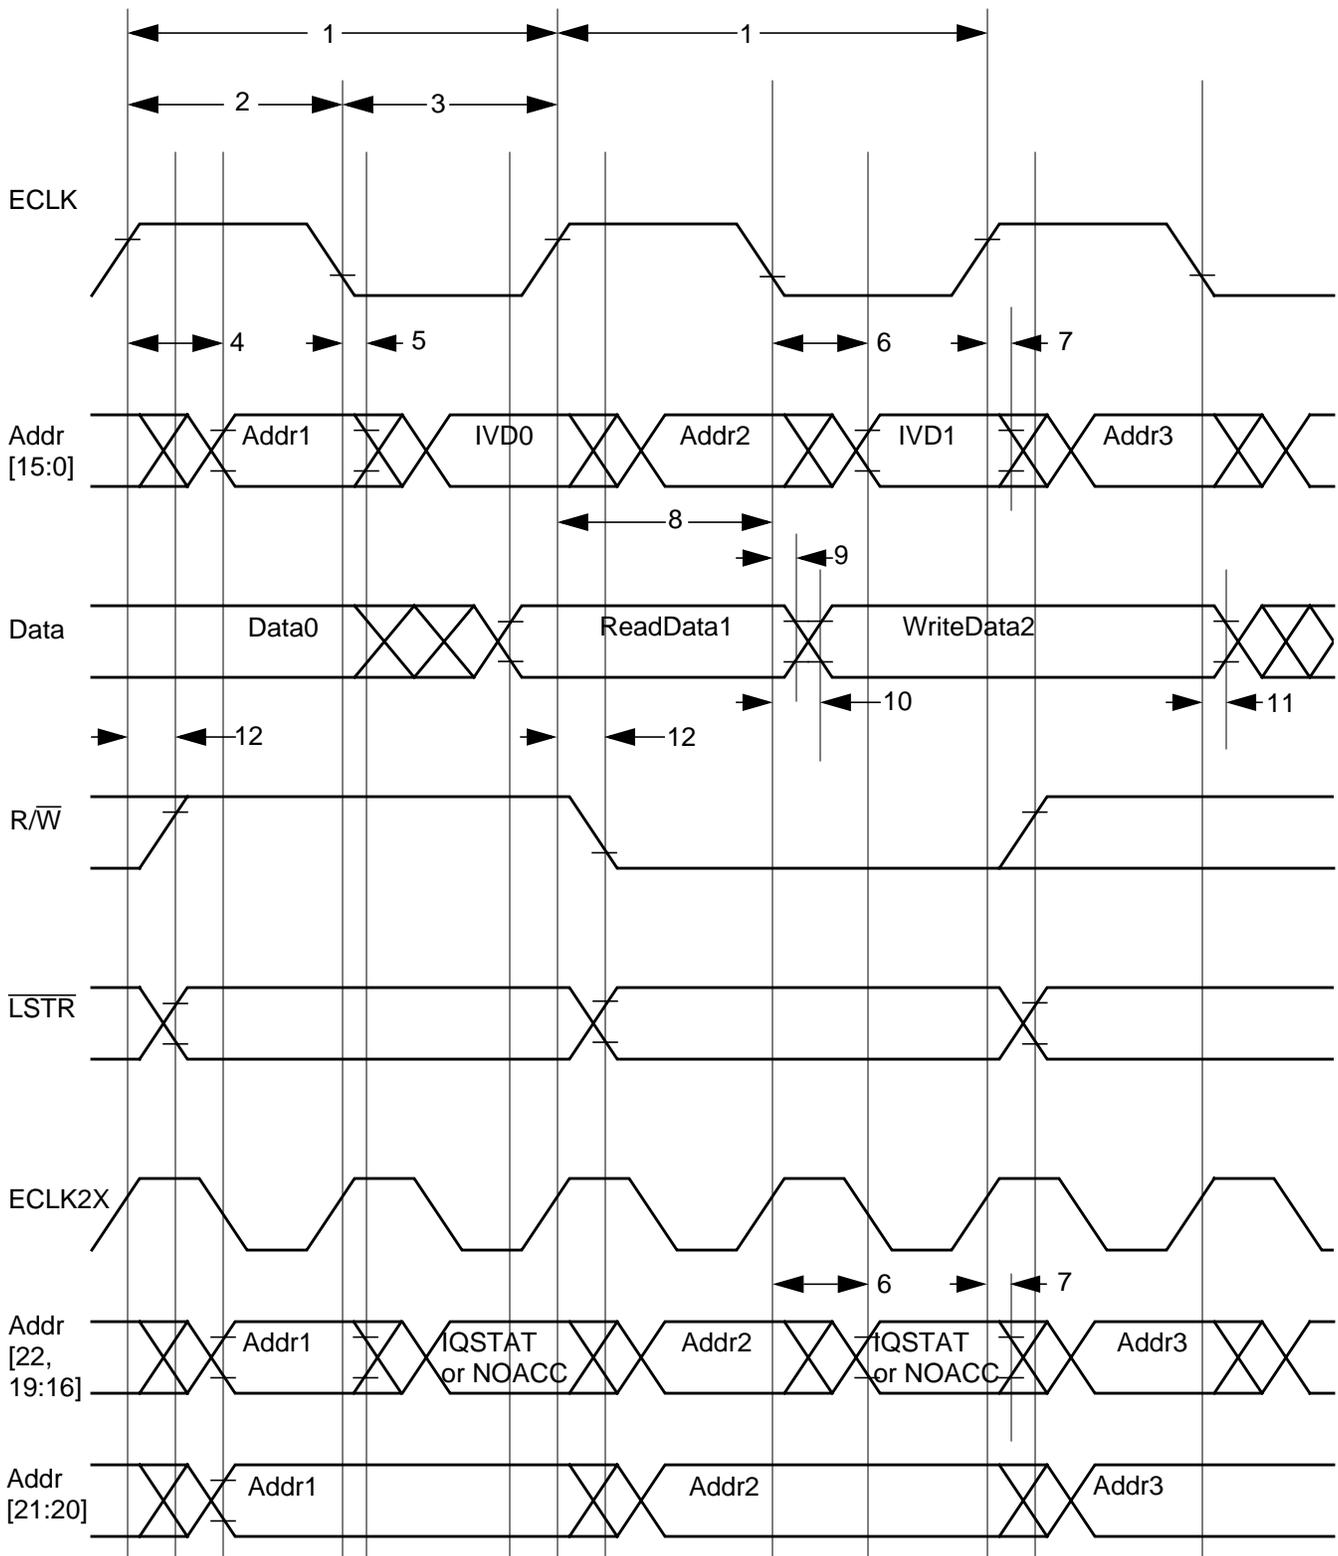
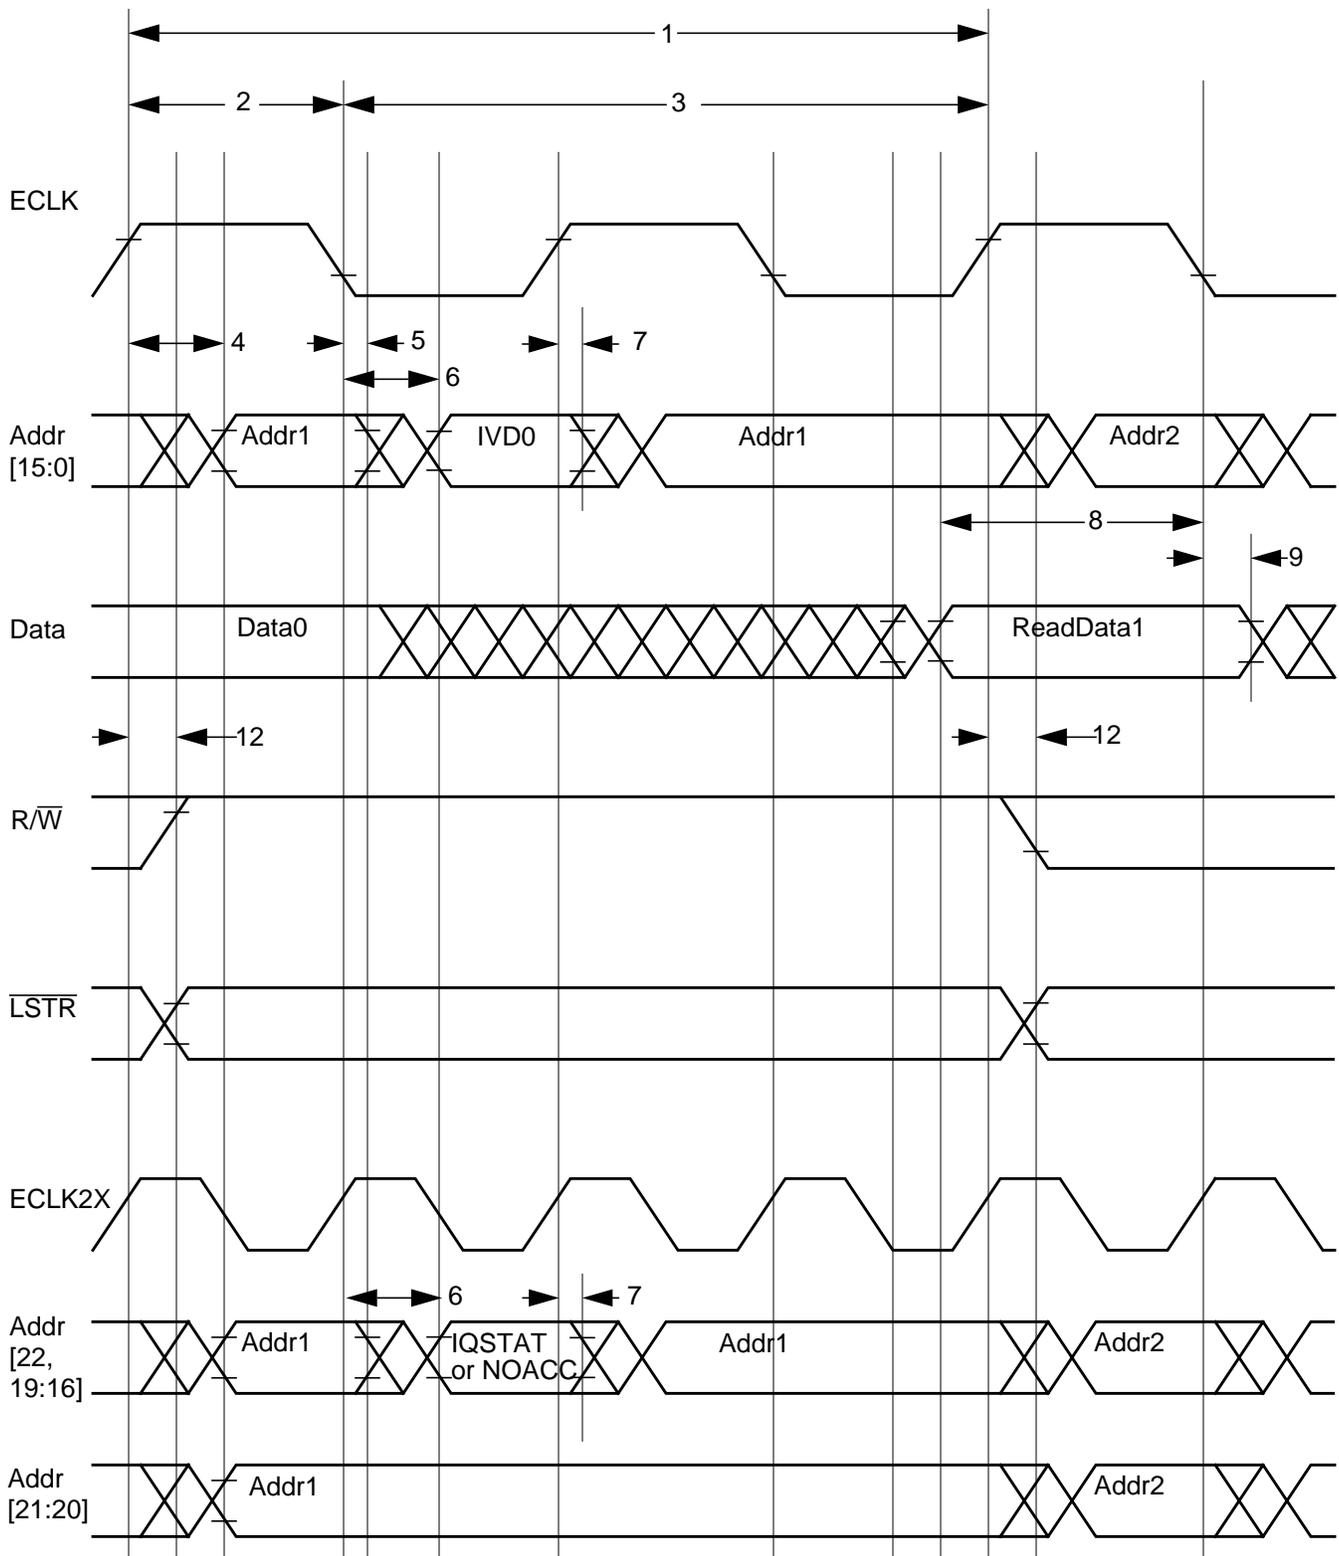
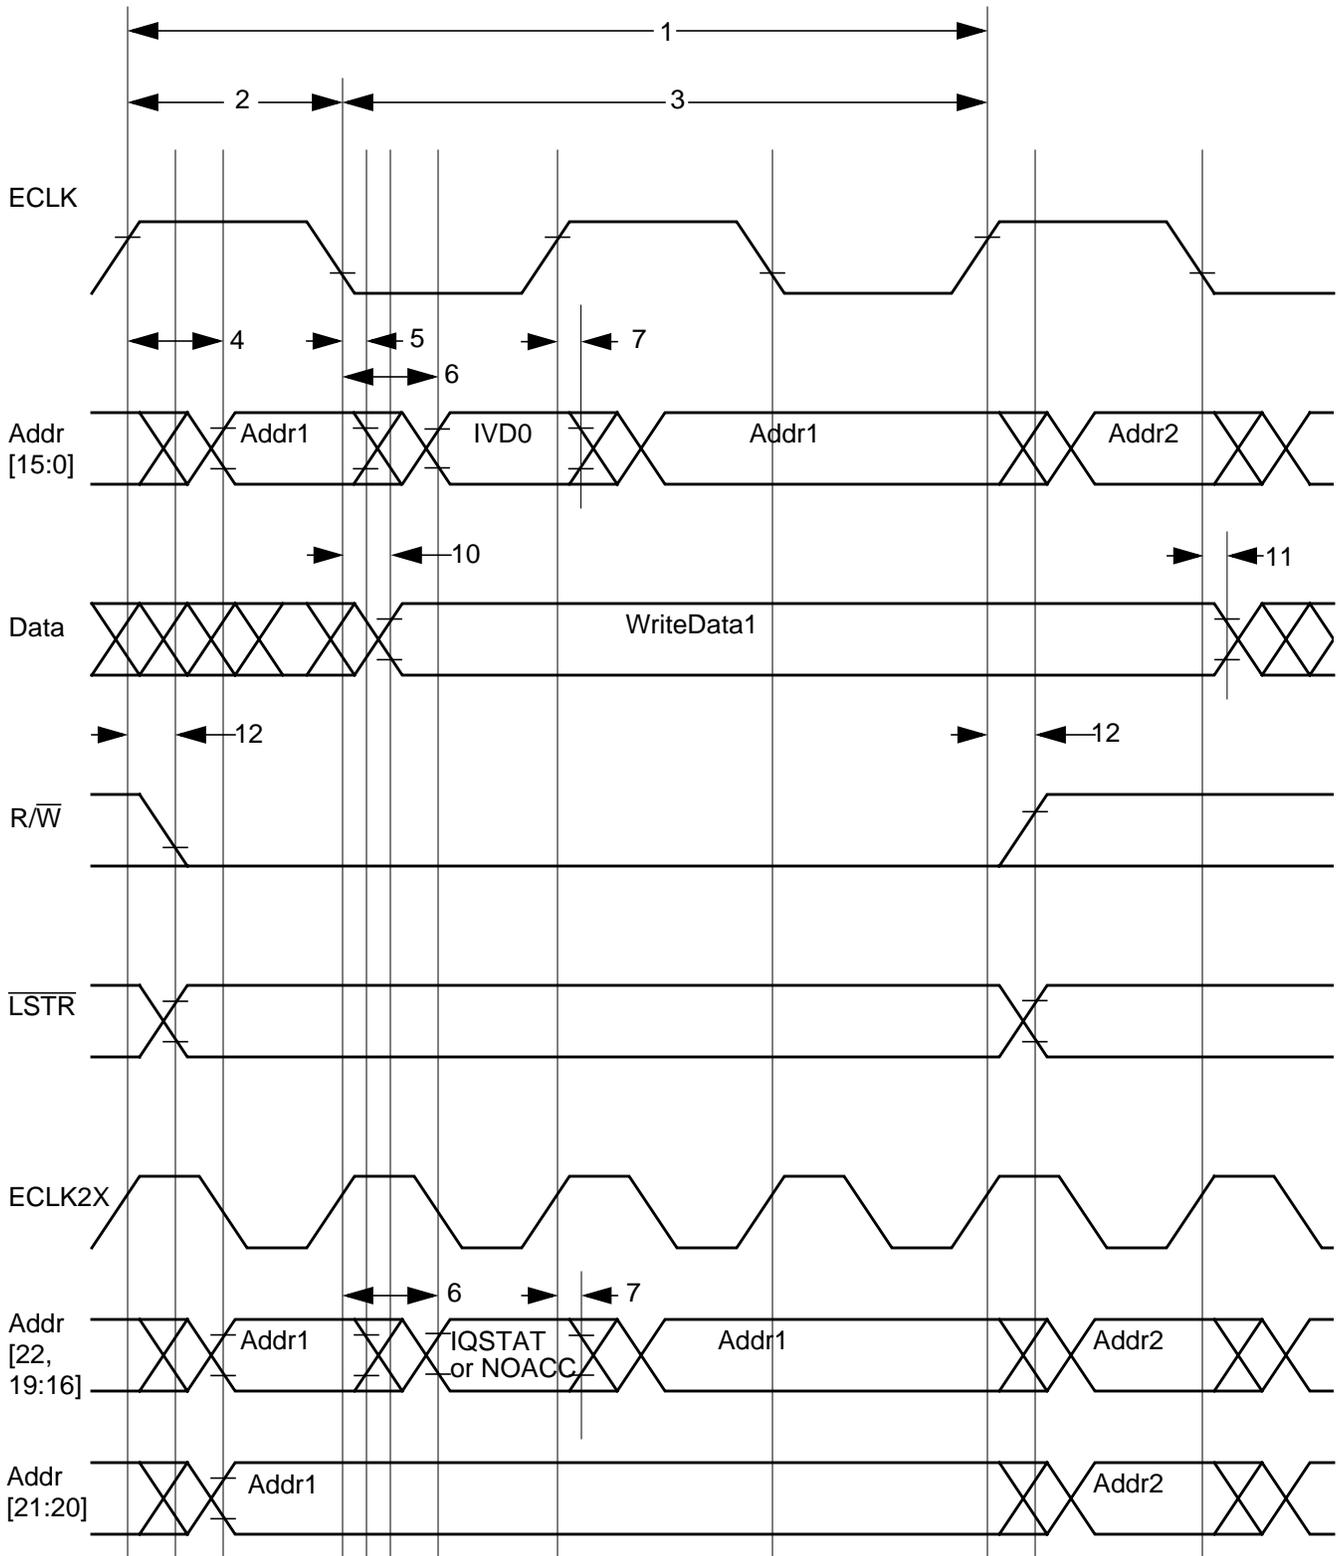

Figure 5-4 Timing Diagram: Emulation Single-Chip Mode - Read Followed by Write
Figure 5-5 Timing Diagram: Emulation Expanded Mode - Read with One Cycle Stretch
Figure 5-6 Timing Diagram: Emulation Expanded Mode - Write with One Cycle Stretch
operation with a logic analyzer should be reasonable. The timing diagram for this operation is in Figure 5-4 and the associated timing numbers are in Table 5-3.
- The timing for accesses to PRU registers, which take 2 cycles to complete, is the same as shown in Figure 5-5 and Figure 5-6 which show the timing for a read and write, respectively, with 1 cycle of stretch.
Designed to allow emulation of normal expanded mode, emulation expanded mode makes use of the earliest timing signals to allow external port replacement, external generation of selects and timing signals, and possible external emulation memory. If no stretch is imposed on the bus, the timing is the same as Emulation Single Chip shown in Figure 5-4 and Table 5-3. The timing diagram for this operation when stretch is imposed is in Figure 5-5 and Figure 5-6. These timing diagrams show a stretch of one cycle for read and write. The associated timing numbers are in Table 5-4.